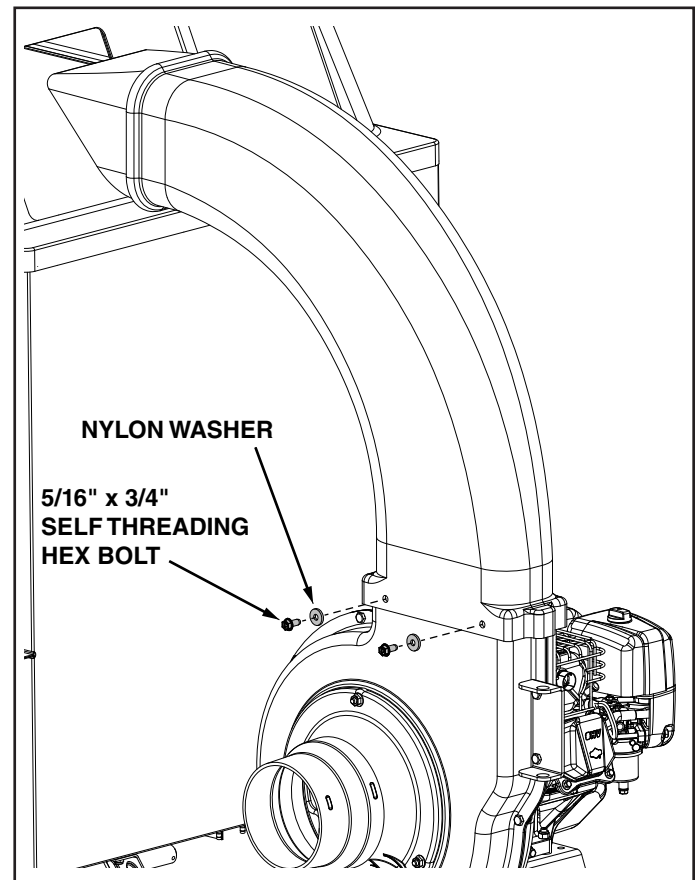

FIGURE 6
9. Assemble the elbow to the impeller housing using four 5/16" x 3/4" self tapping hex bolts and four nylon washers. Push while turning to help start the bolts into the unthreaded holes. **Tighten.** See figure 6